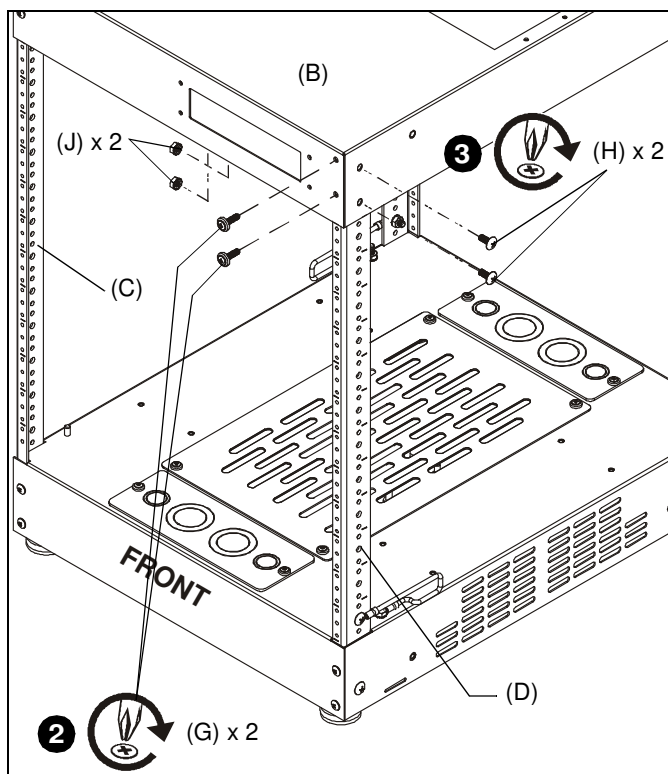

Figure 3
1. Place top assembly (B) onto the four installed rack rails. (See Figure 3)
2. Insert and tighten two 10-32 x 3/4" Phillips head screws (G) through top assembly (B) into rack rail. (See Figure 3)
3. Insert two 1/4-20 x 5/8" Phillips truss head machine screws (H) through top assembly (B) and rail rack, into two 1/4-20 keps nuts (J). (See Figure 3)